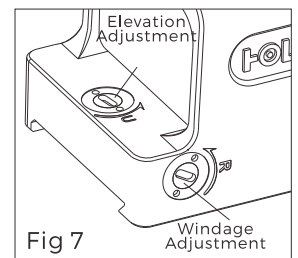

Fig 7
2) The Elevation adjustment is located on top of the tail section of the housing and the Windage adjustment is located on the right side of the housing. Adjustment can be performed by inserting the included flat driver tool into the turret slot and rotating. See Fig 7.